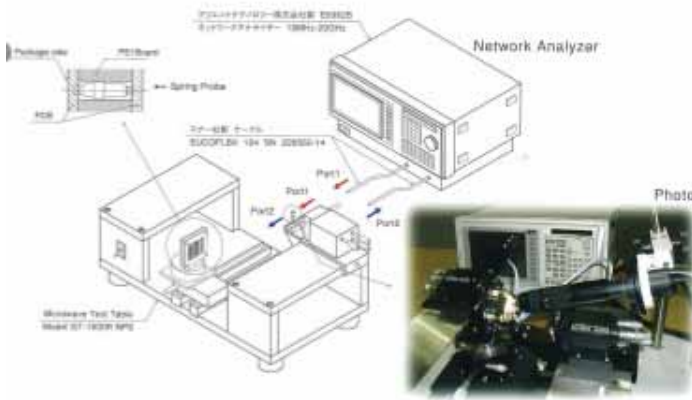

Fig 3. Measurement condition
- (1) Complete Coaxial Spring Probe Contacts.
- (2) Socket GND organize block.
- (3) Regular composed Spring Probe block.
Best performance was brought from a combination of combining (1) and (2). It was confirmed by S parameter loop measurement by specialized board and Network Analyzer using like Fig. 3. And total cost saving comes from composing of (3).
High frequency signal source through a Pico Probe touching to the specialized board (characterized to  $Z_0=50\ \text{ohm}$ ) holding Probe or Coaxial Probe be assembled as same condition of IC base socket. And the signal return to Network Analyzer by **loop test condition.** (Fig 3.)